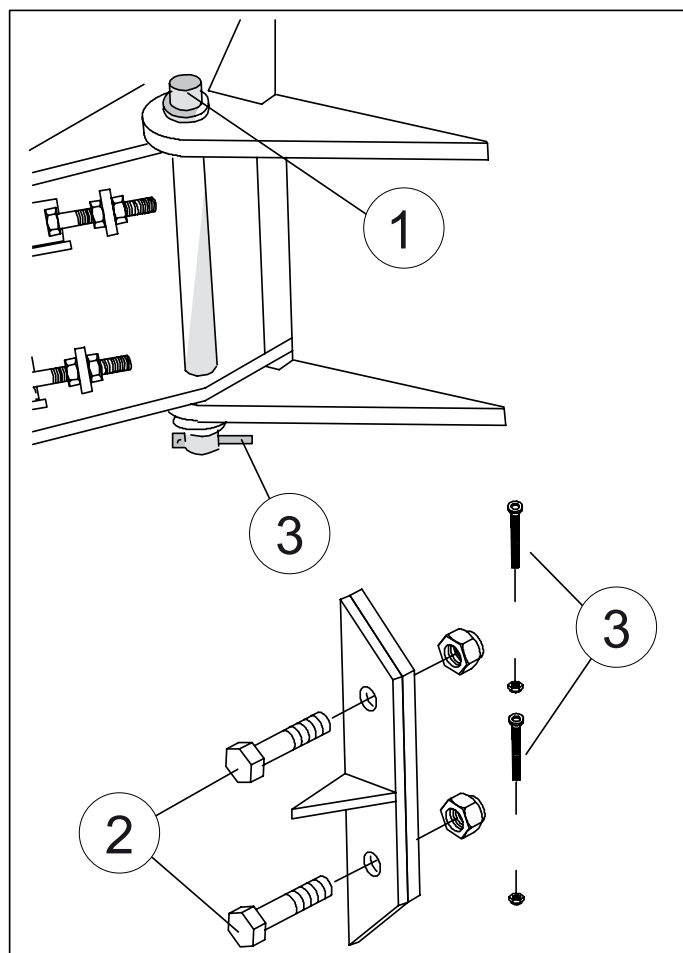

Fig. 4. Mounting the feeder
1. Attach the feeder to the chipper from the left side with the hinge pin (1) and from the right side with two bolts (M12) (2). Remember to install the securing bolts (M6) (3). See Fig. 4.